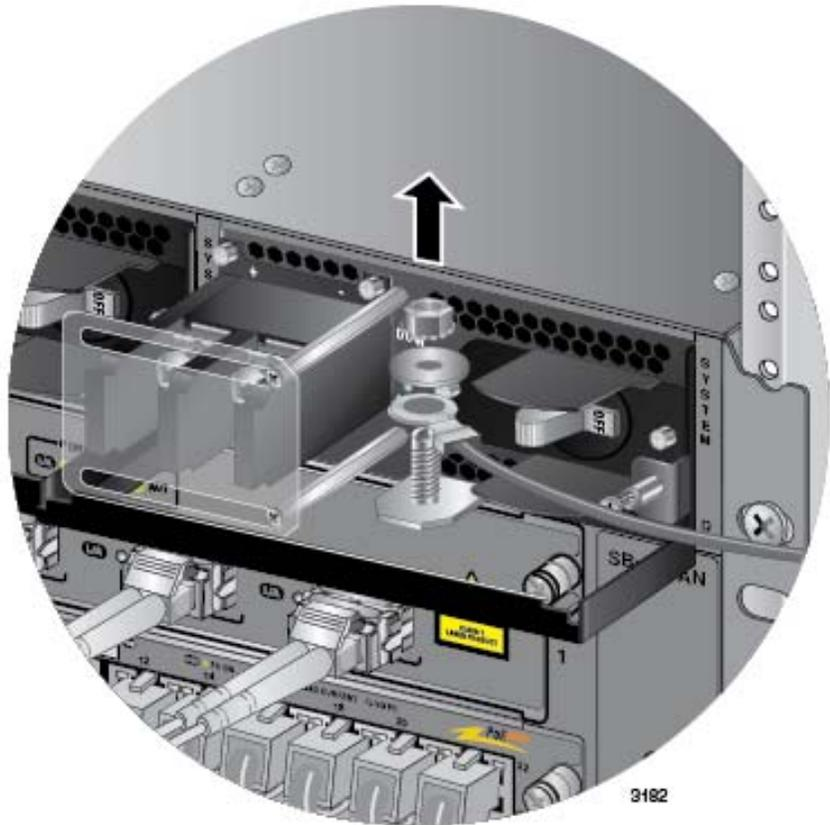

Figure 156. Removing the Grounding Wire
9. Use an 8 mm wrench to remove the grounding wire from the grounding post. Refer to Figure 156 on page 245.